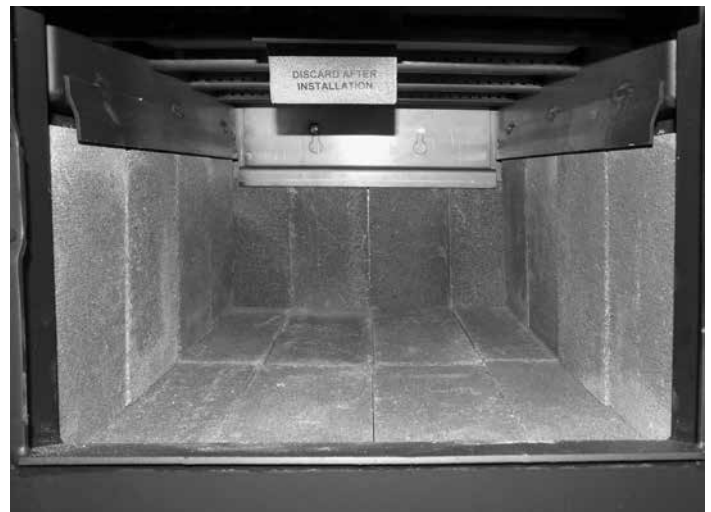

Figure 22: Remaining side wall bricks installation.
5. Using the same method, place three more bricks along one of the side walls. (Figure 22)